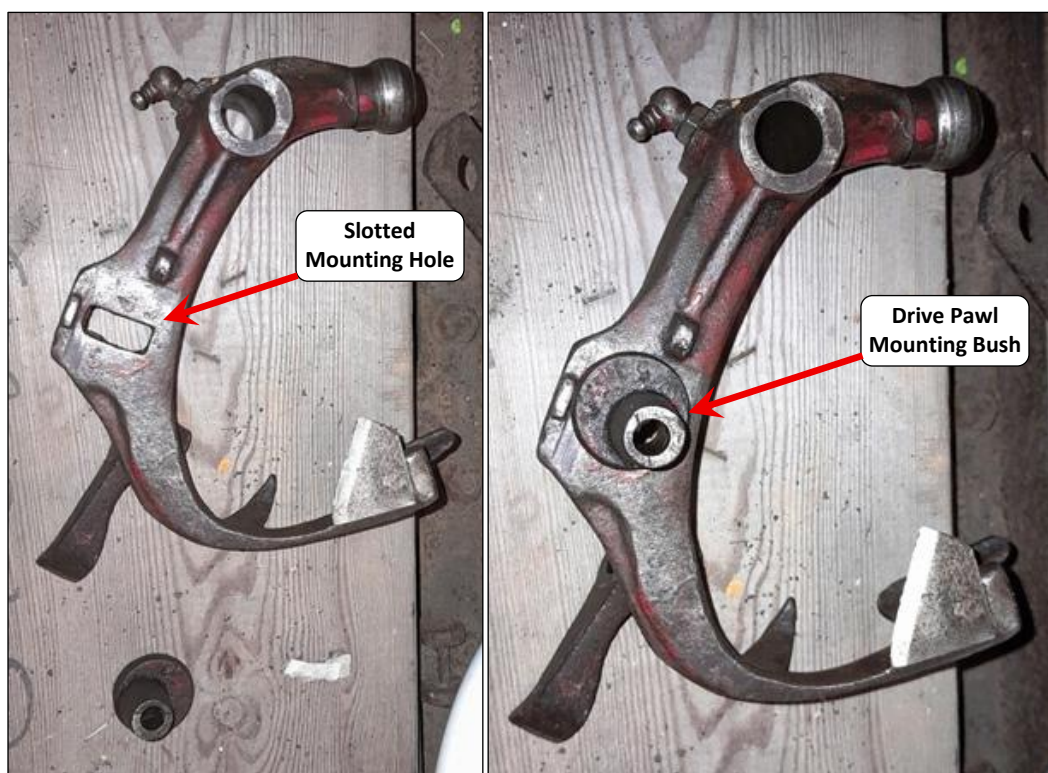
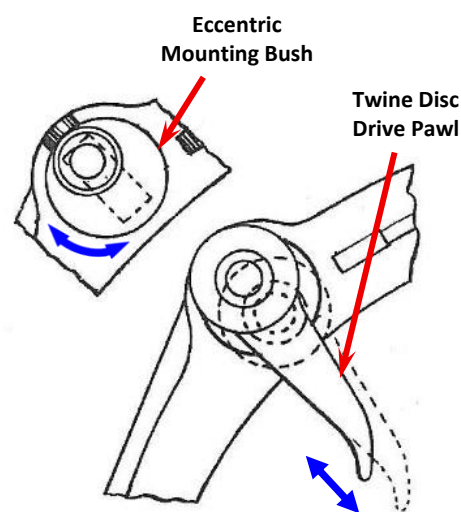

Fig.5.26 Albion binder Knife Arm showing Twine Disc Drive Pawl slotted mounting hole (*left*) and eccentric bush (*right*) for adjustment of Twine Disc Timing
Fig.5.27 Twine Disc Drive Pawl adjustment on Albion binder Knife Arm
- o Certain adjustments (*e.g. Twine Disc timing*) whilst stepless, are not particularly convenient (*Figs 5.26 & 5.27*).
The Twine Disc Drive Pawl is bolted to the Knife Arm via a slotted hole (*Fig.5.26 (left)*), so the position of the Drive Pawl (*relative to the Knife Arm*) can be adjusted. This in turn changes the position to which the Twine Disc is rotated on the return stroke of the Knife Arm and, in effect, adjusts the Twine Disc's timing: the desired setting being that shown in *Fig.4.11*.
As Twine Disc Timing needs to be set quite precisely, the Drive Pawl is mounted on a bush with an eccentric flange, which butts up against a lug on the Knife Arm (*Fig.5.26 (right)*). Rotating the Mounting Bush, after first loosening the Drive Pawl's retaining bolt, permits the Pawl to be positioned & held at any point along the slotted hole (*Fig.5.27*). The bad news is that, when the Drive Pawl is in place, it's not very easy to rotate the Mounting Bush.